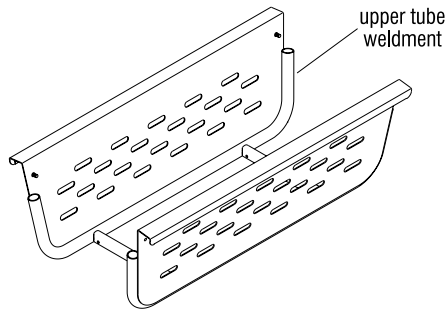

Figure 1
1. Place the upper tube weldment upside down on a soft protective surface to prevent scratching (Figure 1).